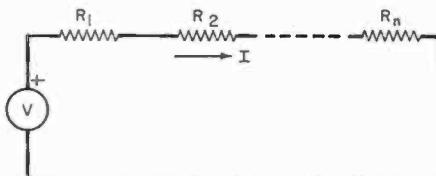

Fig. 12
**A. Resistors in Series.** Consider  $n$  resistors connected in series (Fig. 12). Applying Kirchhoff's voltage law,  $V = I(R_1 + R_2 + \dots + R_n) = IR_{eq}$ , where  $R_{eq} = R_1 + R_2 + \dots + R_n$  is the equivalent resistance. The equivalent resistance of a number of resistors in series is equal to the sum of the individual resistors.